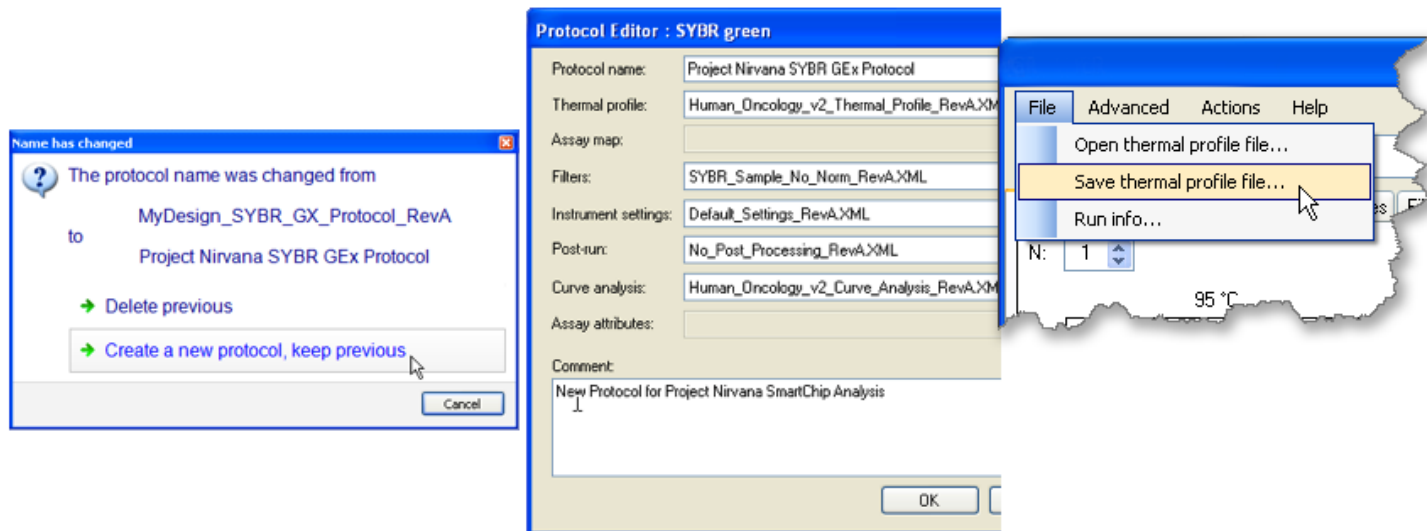

Figure 19. Renaming and saving the new protocol.
- c. Rename the protocol as desired in the “Protocol name” field. This will open a *Name has changed* window. We recommend that you choose to **Create a new protocol, keep previous** (Figure 19). This preserves a copy of the default MyDesign gene expression profile on your computer. Close the *Protocol Manager* window by clicking the red [X] icon in the upper right corner.
- ii. Save the modified thermal profile by choosing **Save thermal profile...** from the **File** drop-down menu. Name the file logically (e.g., “Project Nirvana thermal profile” in the example in Figure 19) and click [Save].